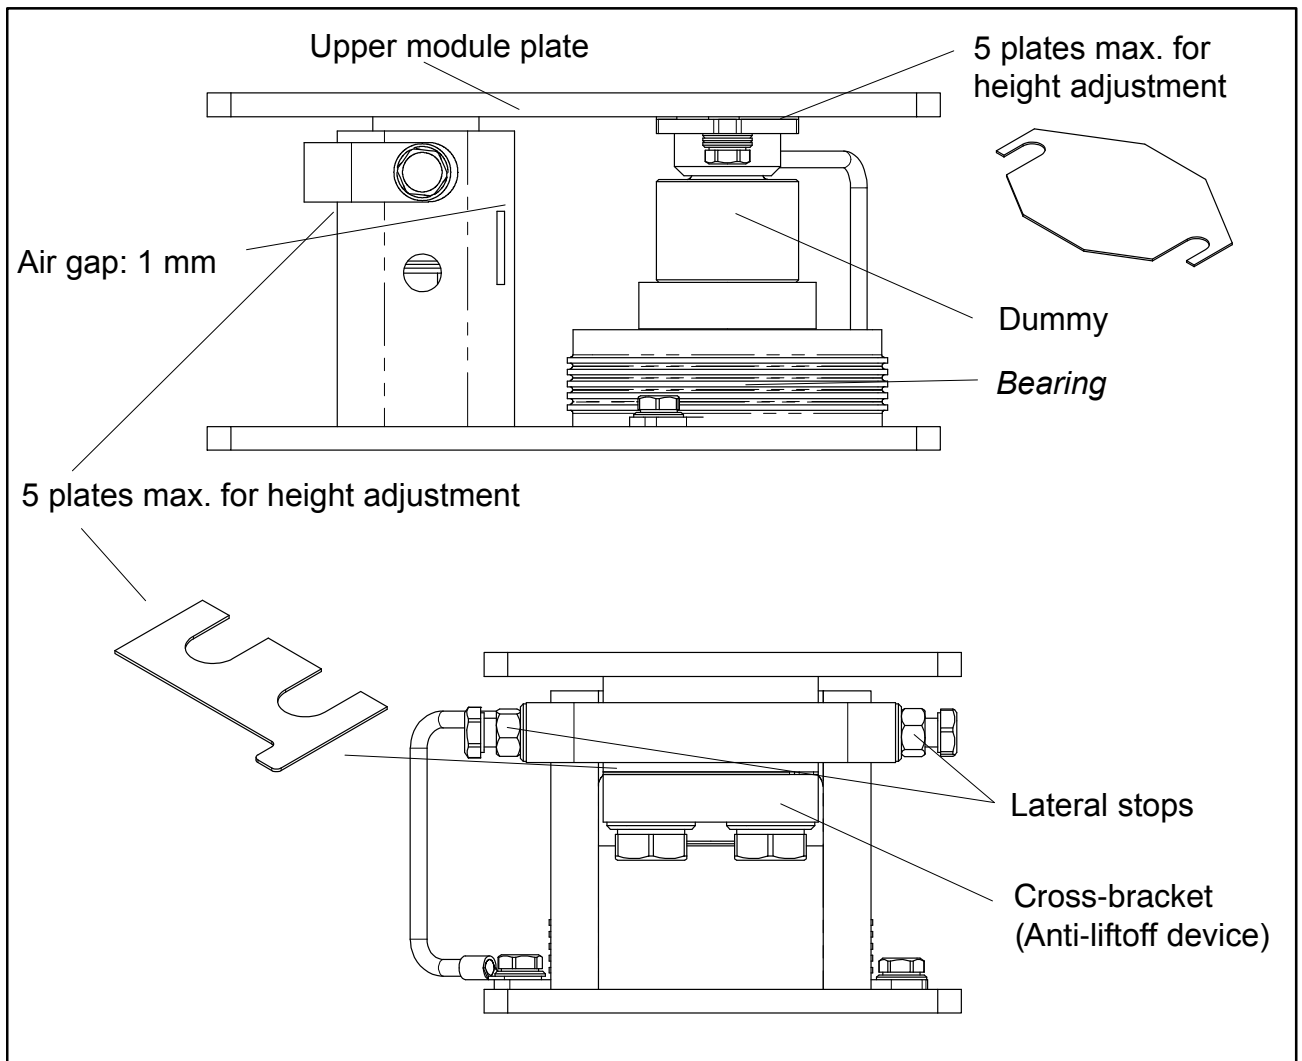

Fig. 7.2: Fitting of the spacer plates with 10 t ... 33 t version
Mounting of load cells up to a max. capacity of 10 t, 22 t and 33 t (see Fig. 7.2):
- Vertically align the module by inserting or removing the five 1-mm-thick spacer plates above the thrust piece of the load cell (see Fig. 7.2)